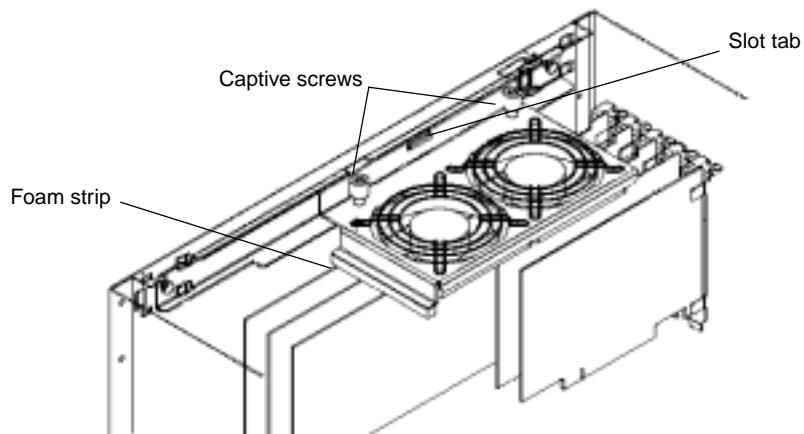

Figure 4-16 Attaching the Fan Assembly
5. Attach the fan to the support bracket by aligning the slot in the fan assembly with the tab support bracket, and tightening the two captive screws on the fan assembly (see Figure 4-16).